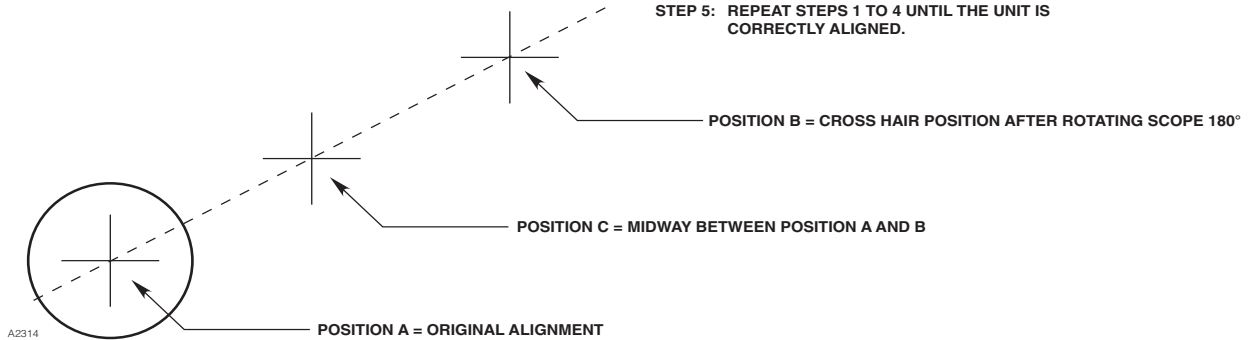

Figure 19—HC600 Alignment using the Telescope Alignment Tool
- A. Adjust the telescope alignment screws until the cross hairs are midway between the original position (center of transmitter window) and the current position (after the scope was rotated 180°). See Figure 19.